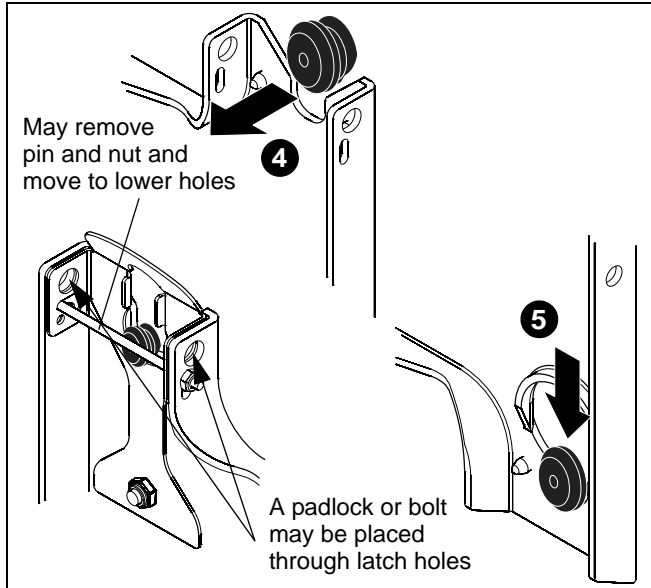

Figure 8
**NOTE:** Holes are provided in the faceplate for use with a padlock or similar locking device, if desired. In addition, the pin and nut may be removed from the upper holes and moved to the lower holes for use as a more permanent locking device. (See Figure 8)